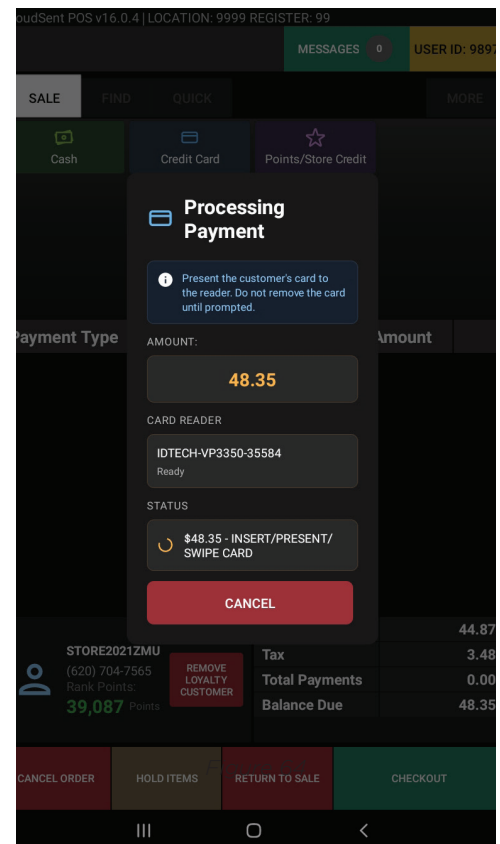

Figure 59
5. Wait for the Processing Payment screen to complete the transaction (Figure 59).